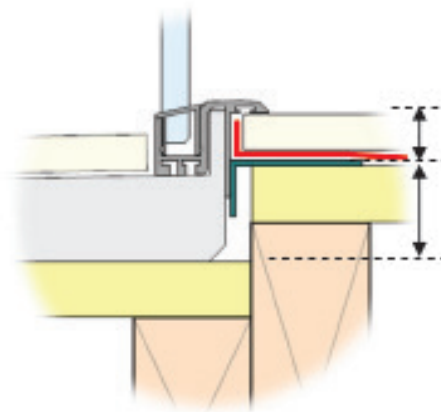

FIG 4.
- Level entry applications require a Level Entry Kit flashing (GREEN ANGLE in FIG 4) to be siliconed to the base. The waterproofing outside the shower will lap onto this flashing as shown (RED LINE FIG 4). Please refer to supplied dimension sheet for measurements.